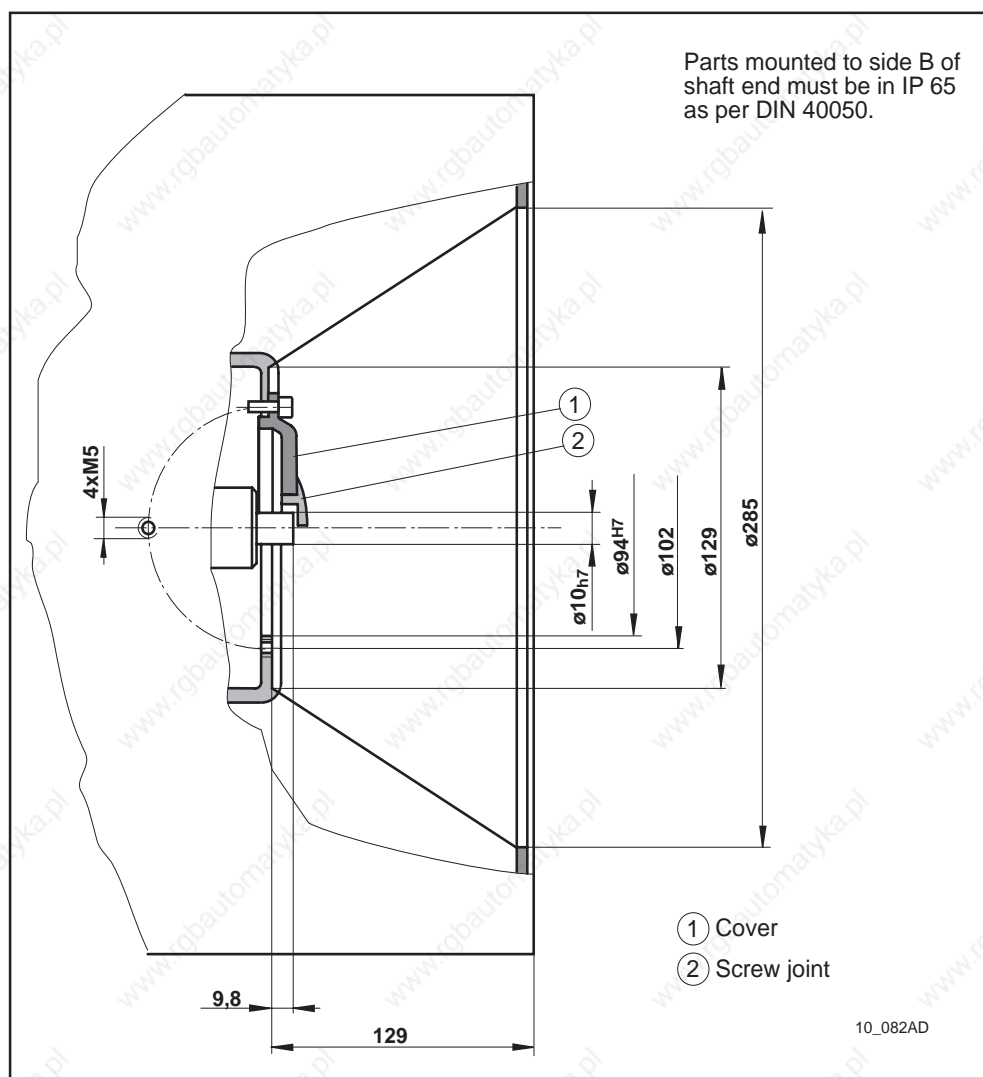

Fig. 10.8: B-side shaft end 2AD180
- ④ flange dimensions per DIN42948
- ⑤ ring screws M20 - DIN 580
- ⑥ add. threads M20 for ring screws; second thread opposite
- ⑦ air flow A → B
- ⑧ air flow B → A
- ⑨ Motor feedback conn. type 3 (flanged socket), allocation per position of power connection
- ⑩ Axial blower
- ⑪ Radial blower arrangement selectable; pos. if radial blower may not be same as that of power connection.
- ⑫ Motor blower connection terminal box with cable threaded joint
- ⑬ Mounting distance (min. clearance for taking in air for cooling).
- ⑭ B-side shaft end dimensions, see Fig. 10.8
- ⑮ Air baffle